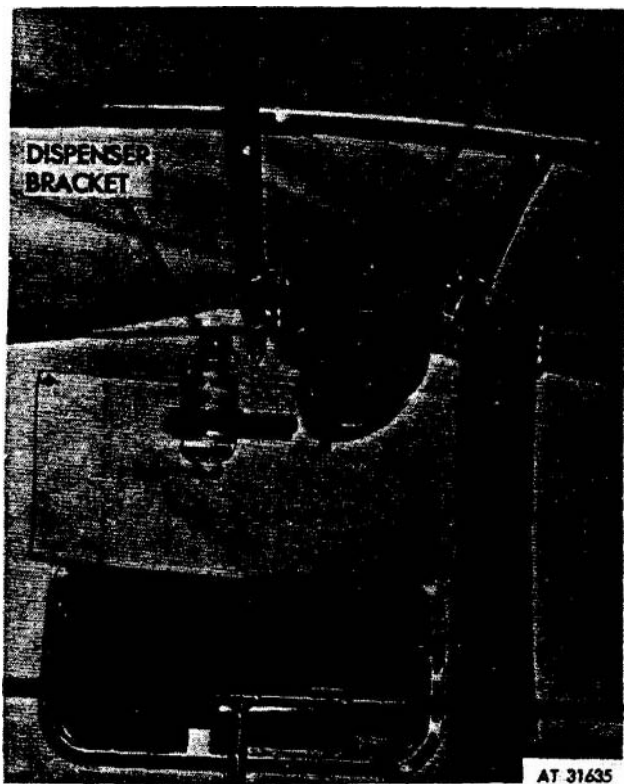

Figure 1-17. Surgical swivel light and dispenser bracket.
j. *Surgical Light and Dispenser Bracket.* A surgical light (fig 1-17) is provided for illumination during operations or emergency situations. The *surgical* light utilizes a sealed beam type lamp which may be pointed in all directions in a hemisphere and locks by friction in any position. Loosening the knurled screw on the side of the light housing permits the lamp to swivel out of the housing and to *be set in* any required position. It is normally mounted between the two forward canopy bows. A bracket (fig 1-17) to accommodate plasma or other medical dispensers *is also* provided and may be located on the overhead bows or *wherever* required. The dispenser bottle is suspended from a hook on the bracket and swaying of the bottle is prevented by a strap and buckle which secures it to the **bracket**